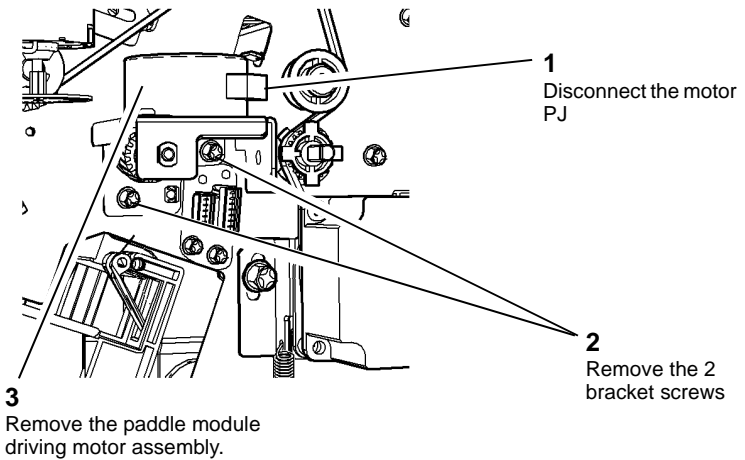

Figure 1 Motor assembly removal
2. Remove the paddle motor assembly, Figure 1.